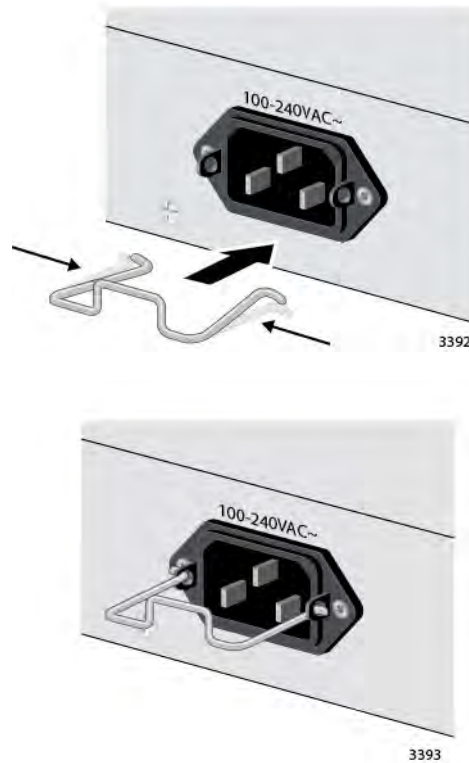

Figure 34. Installing the Retaining Clip
1. To install the power cord retaining clip, position it with the “u” part facing down, press in the sides, and insert the ends of the clip into the holes in the retaining bracket on the AC connector. See Figure 34.